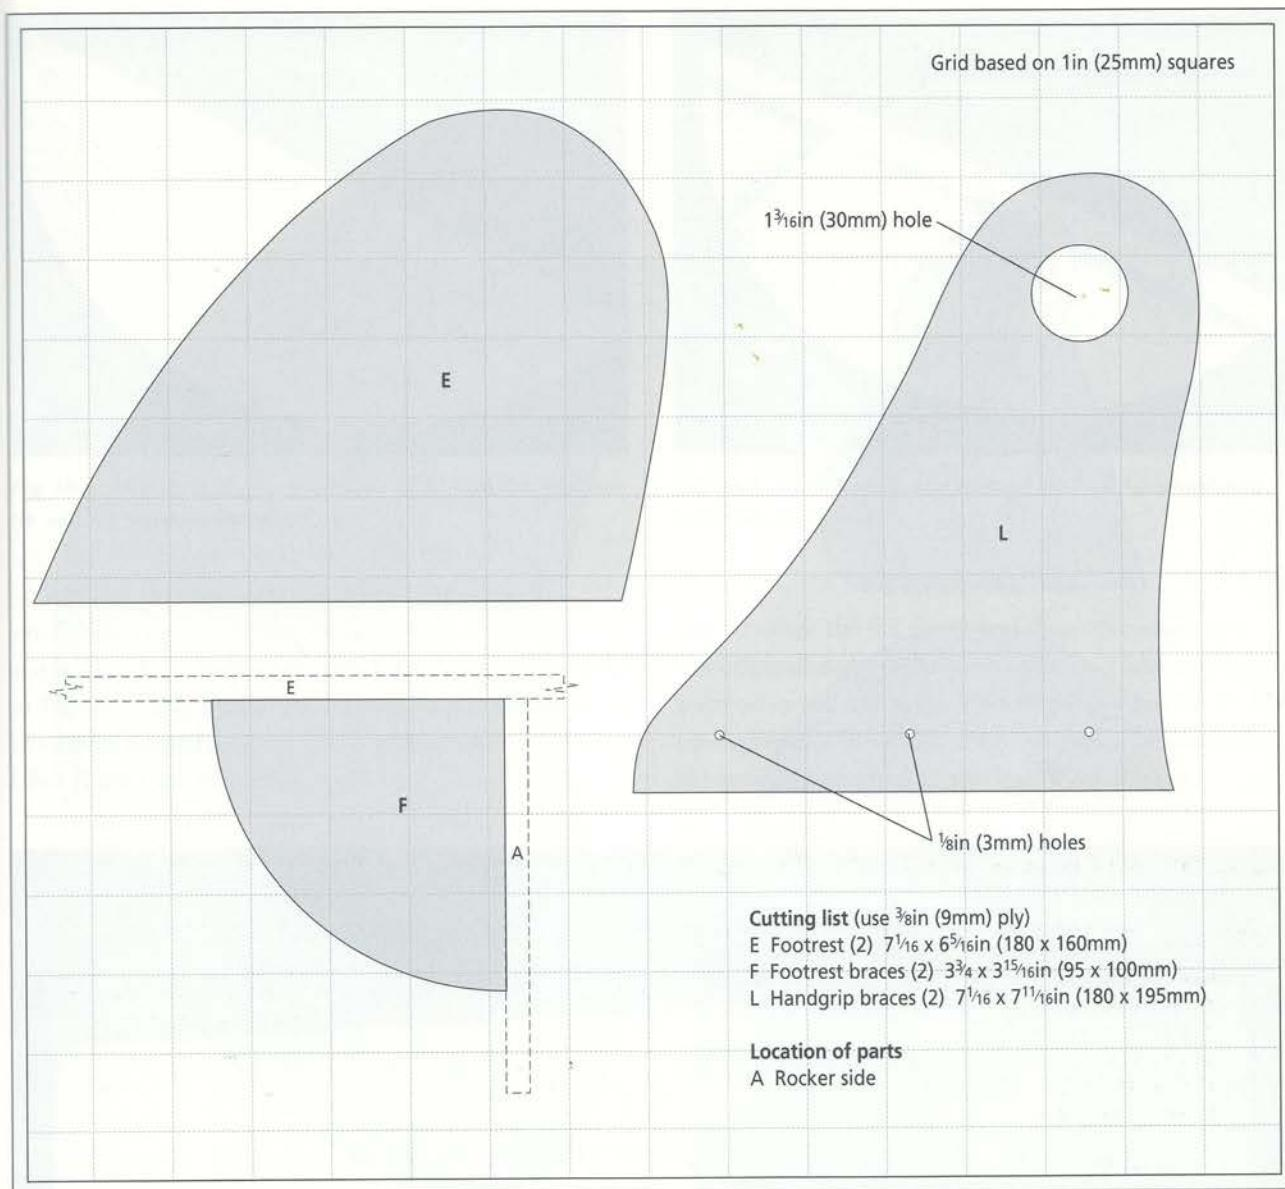

Fig 18.4 Enlarge E, F and L from the grid. Part F is shown in relation to A and E.
Using panel pins and a hammer, temporarily pin together the two pieces of ply for L. Then saw to shape (see Fig 18.4). Drill the $1\frac{3}{16}$ in (30mm) hole through both pieces. Also drill and countersink the three screw holes for attaching the L parts of the handgrip assembly to the head.
Referring to Fig 18.4, saw the two fin footrests (E) to shape. Saw the four pieces that form the footrest brackets (F) as well. Glue and pin together two parts F. Repeat the gluing and pinning with the remaining two F parts. Shape and sand the edges of the two E parts,